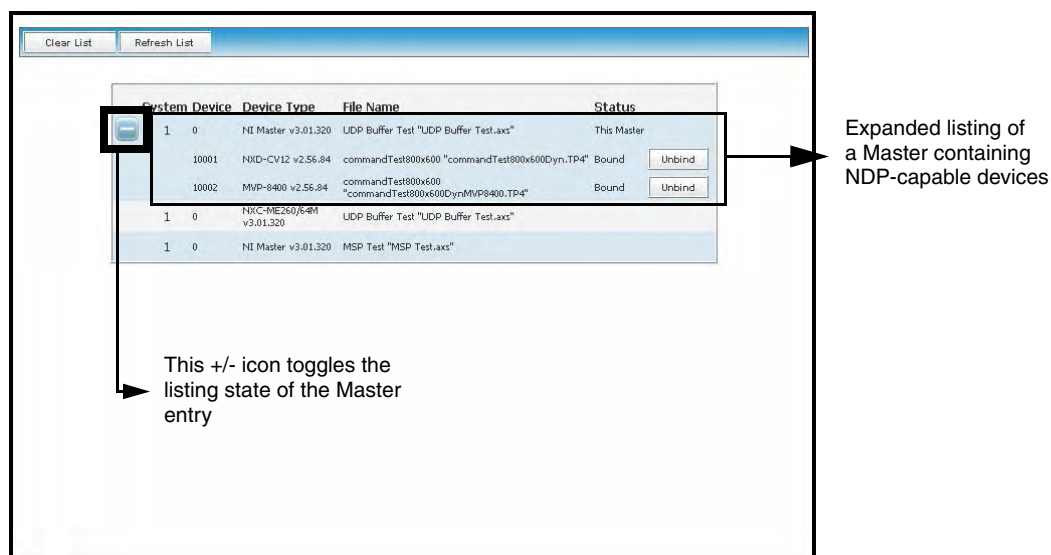

FIG. 67 Manage NetLinx Devices page - showing an expanded view
1. Click the "+" icon to expand the particular Master's listing and reveal those NDP-capable devices connected to it, as shown below in FIG. 67.